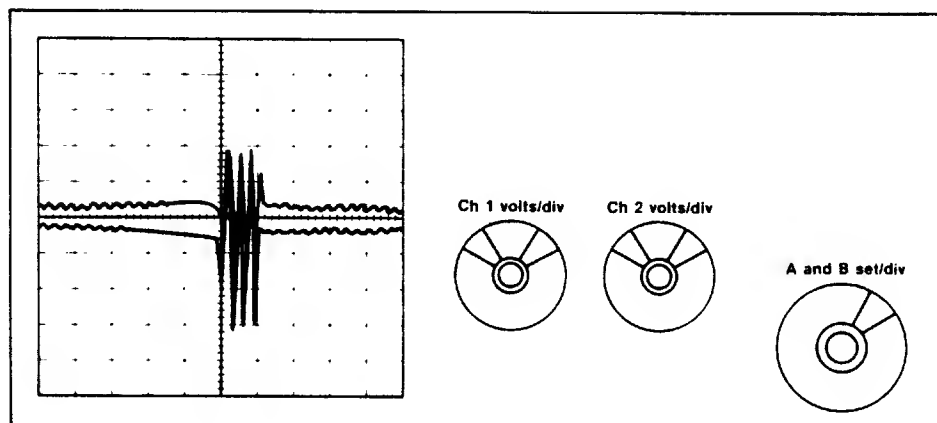

FIGURE 8-57. INDEX SENSOR SIGNAL
8.3.6.6 Observe timing between start of sweep and first data pulse on oscilloscope. Timing should be 200 ± 50 microseconds (Figure 8-57).